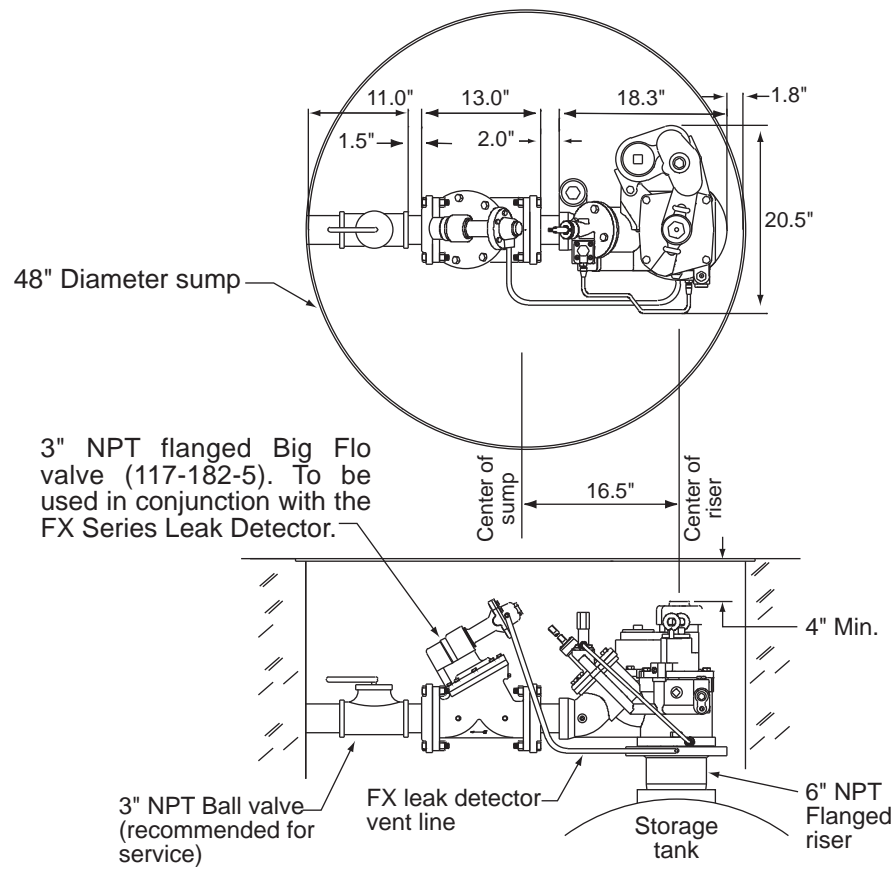

Figure 10.
**The installation described herein is for a single pump system (reference Figure 10). If two pumps are to be installed in tandem, contact your service representative for instructions for your specific system.**